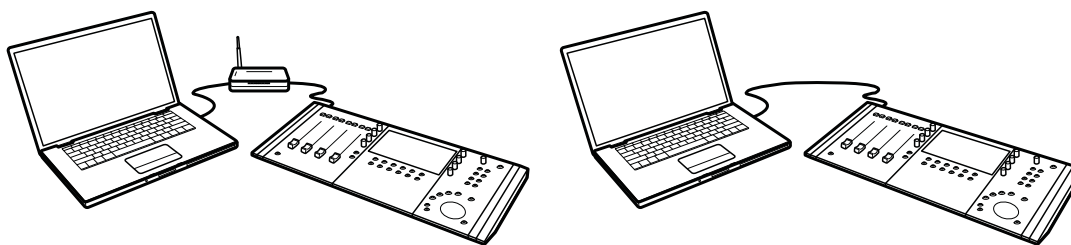

Figure 2-9 MC Control connected to router (left) and directly to computer (right)
7. Plug the other end of the Ethernet crossover cable into an open Ethernet jack on your computer, router, or Ethernet switch (Figure 2-9).
An Ethernet router or switch is required to connect additional MC Mixes or to a local area network. Note that connecting directly to the computer (Figure 2-9-right) may require removing your Internet cable.